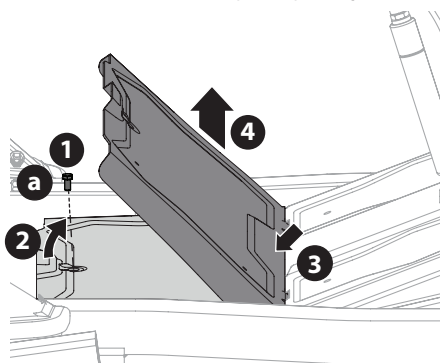

Figure 28
1. Using the multi-tool or a 1/2 inch socket, remove the hex screw (a) that secures the floor panel in place (Figure 28).
2. Carefully lift the rear of the floor panel (Figure 28).
3. Slide the floor panel rearward to free the front of the floor panel (Figure 28).
4. Lift it off the tractor (Figure 28).